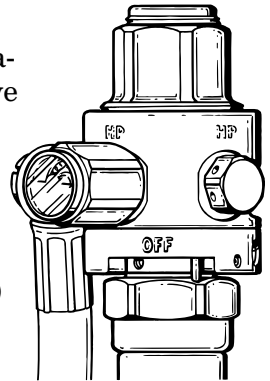

Fig. 4 - "OFF" Position
4. Examine the position of the ON-OFF indicator ring in relation to the indicator pin to determine whether the valve is open or shut. If necessary, turn the first-stage clockwise while holding the cylinder secure until it stops and the indicator pin is positioned to the far right inside the aperture marked "OFF." (See Fig. 4.)